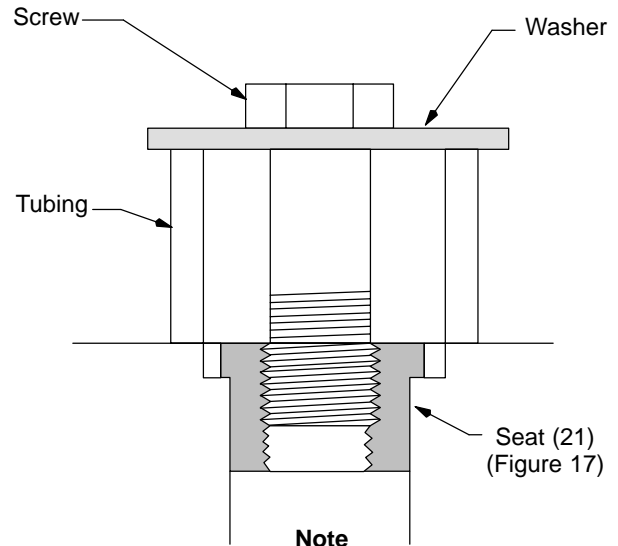

Figure 15. Check Valve Seat Removal
9. See Table 7 for screw information. Obtain a piece of pipe or tubing with an inside diameter that is slightly larger than the outside diameter of the seat. Also obtain a flat washer. Remove seat (21), Figure 15, per instructions noted in Figure 15. Remove poppet (22) and spring (23).